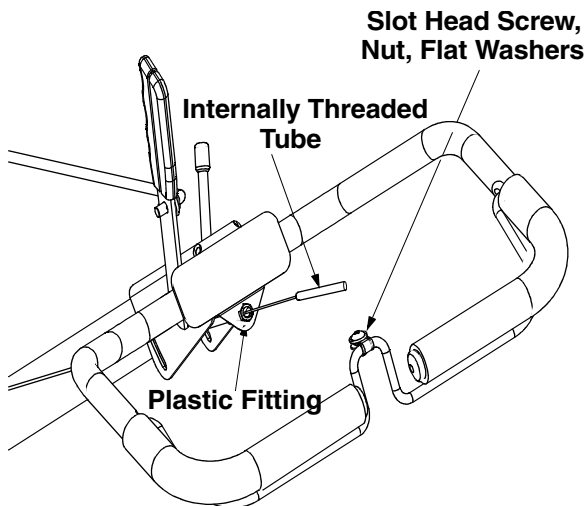

Figure 4
- Push the cable through the hole in the center of the handle and snap in the plastic fitting. See Figure 4.